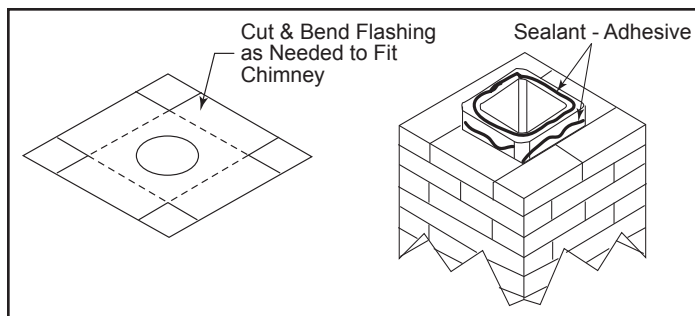

Figure 48
3. Secure the flashing (705C) to the top of the masonry chimney using a bead of non-hardening sealant-adhesive. If the flashing is larger than the top of the chimney, then cut and fold flashing as needed to fit chimney, Figure 48.